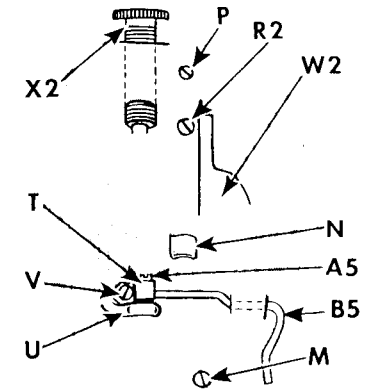

Fig. 49. Removing and Replacing Needle Bar and Presser Bar
3. Loosen clamping screw **M**, **Fig. 49**
If it becomes necessary to remove upper needle bar bushing **N**, **Fig. 49**, first remove screw **R2** and take-up lever oil guard **W2**. Then loosen set screw **P** and drive bushing **N** down and out of head of machine. Use a 13/32 inch driving pin.
2. Remove presser bar regulating thumb screw, **X2**, **Fig. 49** with upper section of presser bar from the head of the machine.
2. Replace guide bracket **T** as shown in **Fig. 49**.